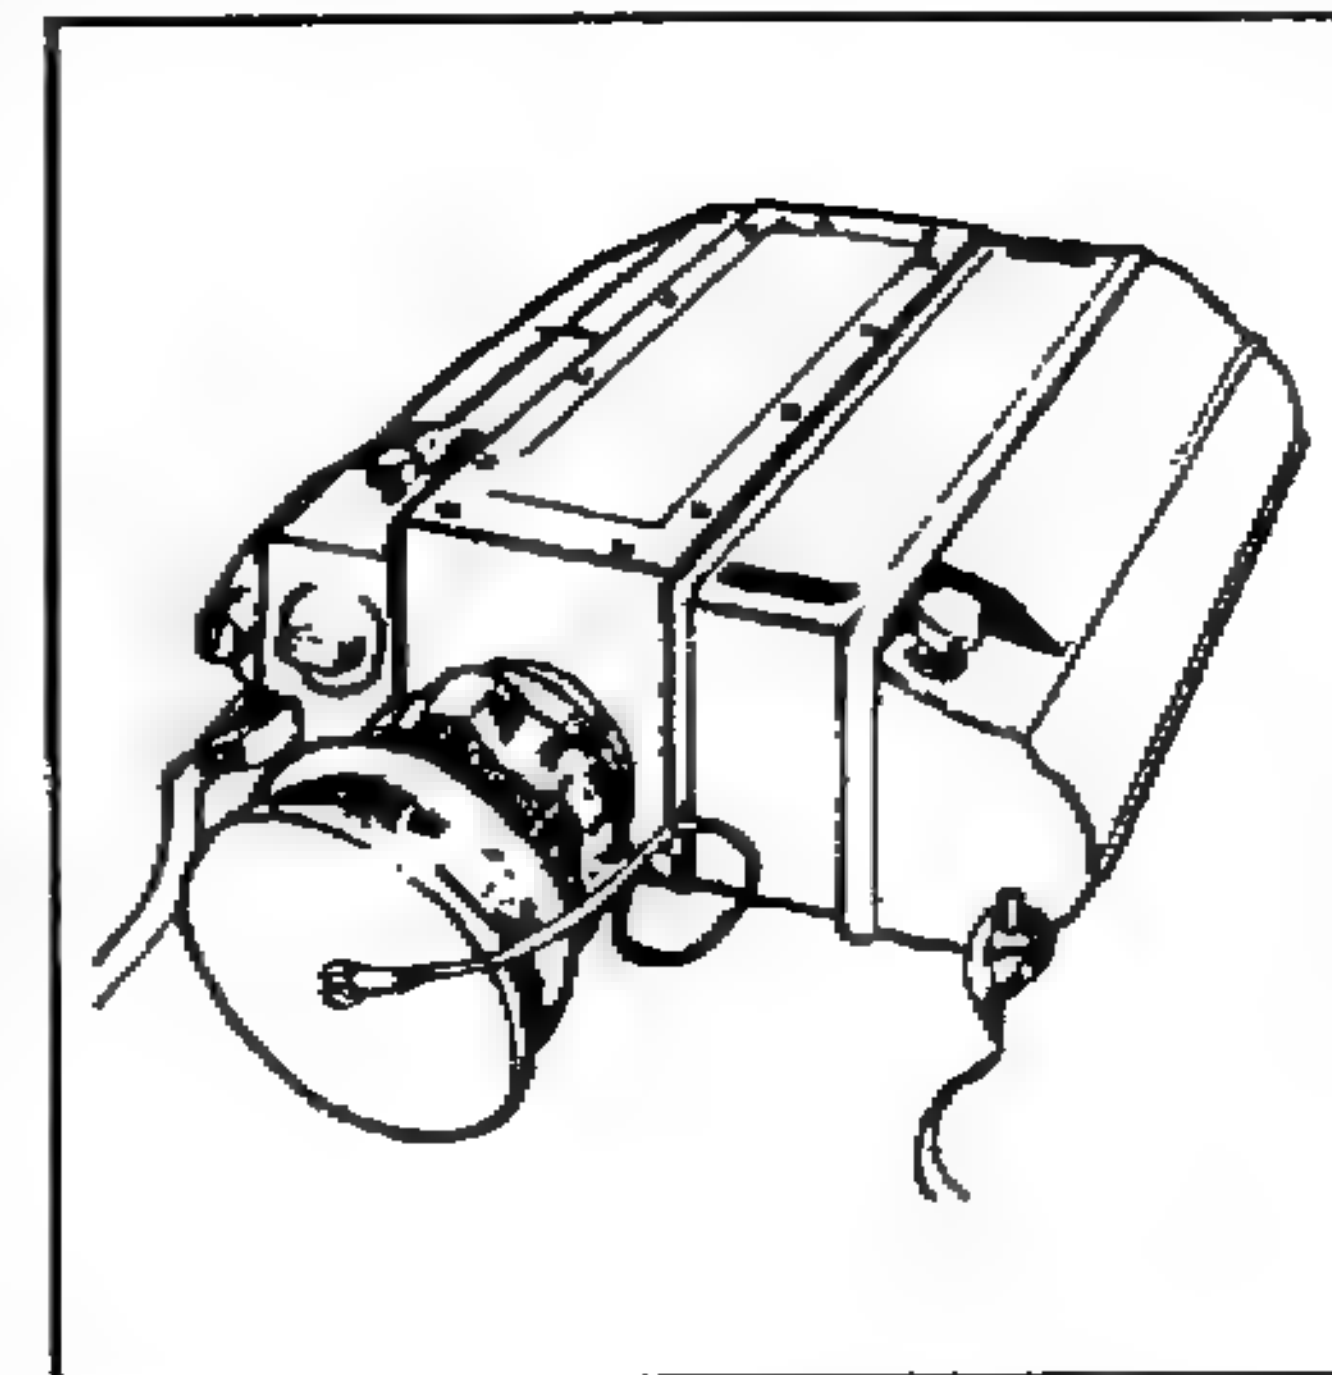

Figure 2-30. Mini-eyesafe laser infrared observation set, AN/PVS-6.
c. **Mini-Eyesafe Laser Infrared Observation Set, AN/PVS-6.** The AN/PVS-6 (Figure 2-30) contains the following components: mini-eyesafe laser range finder; batteries, BA-6516/U, nonrechargeable, lithium thionyl chloride; carrying case; shipping case; tripod; lens cleaning compound and lens cleaning tissue; and operator's manual. The laser range finder is the major component of the AN/PVS-6. It is lightweight, individually operated, and hand-held or tripod mounted; it can accurately determine ranges from 50 to 9,995 meters in 5-meter increments and displays the range in the eyepiece. It can also be mounted with and bore-sighted to the night observation device, AN/TAS-6, long-range.